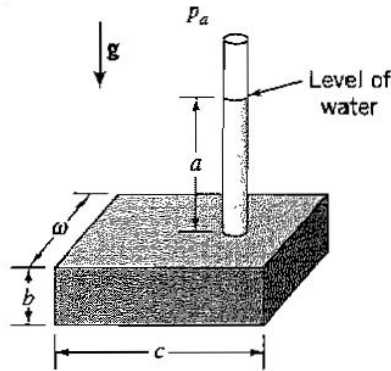

Figure P2.6
2.6 A device consisting of a circular pipe attached to a rectangular tank is filled with water as shown in Figure P2.6. Neglecting the weight of the tank and the pipe, determine the total force on the bottom of the tank. Compare the total weight of the water with this result and explain the difference.